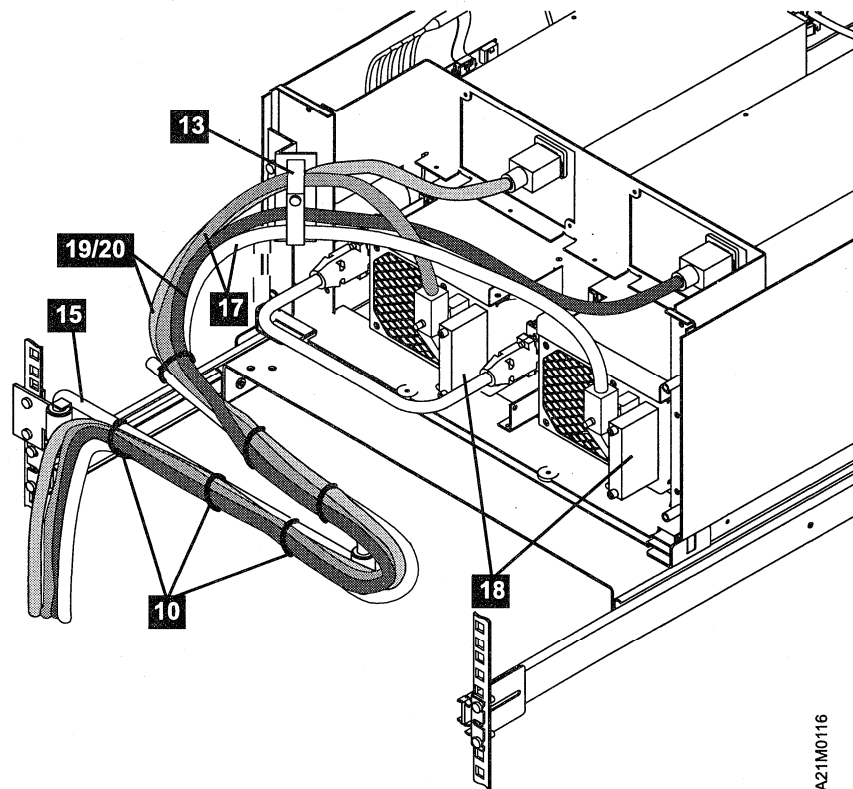

Figure 66. Model C22 (Dual-Drive Split-Host) Cable Routing
- \_\_\_ Step 5. Install the long SCSI host cable **17** into drive 1. Insert the right-angled plug into the left-most 68-pin socket (see Figure 66) so
the cable is looped upward. Next, install the second long SCSI host cable **17** into the left-most 68-pin socket of drive 2. Plug the right-angled plug into the left 68-pin socket (see Figure 66) so the cable is looped upward. Route it to the lower wing of the clamp (loop the cable so it does not extend above the top of the 3570 you are installing). With the power cord **19/20** and the SCSI cable **17** from drive 1 captured in the upper wing of the clamp, and the power cord **19/20** and the SCSI cable **17** from drive 2 captured in the lower wing of the clamp, tighten the screw.